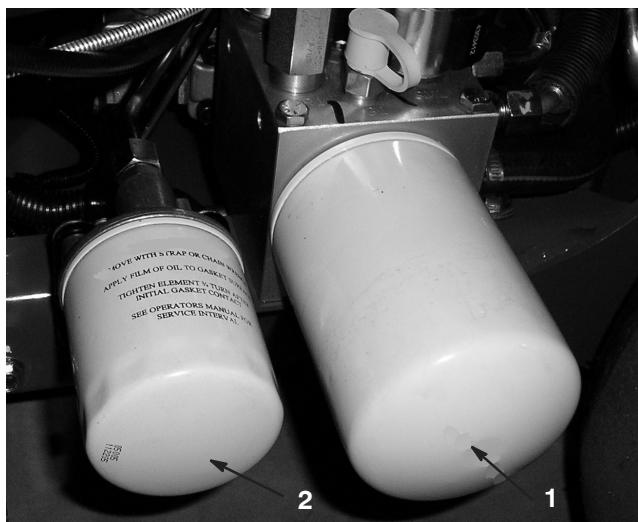

Figure 51
2. Place a drain pan under the filters, remove the old filters and wipe the filter adapter gasket surface clean (Fig. 51).